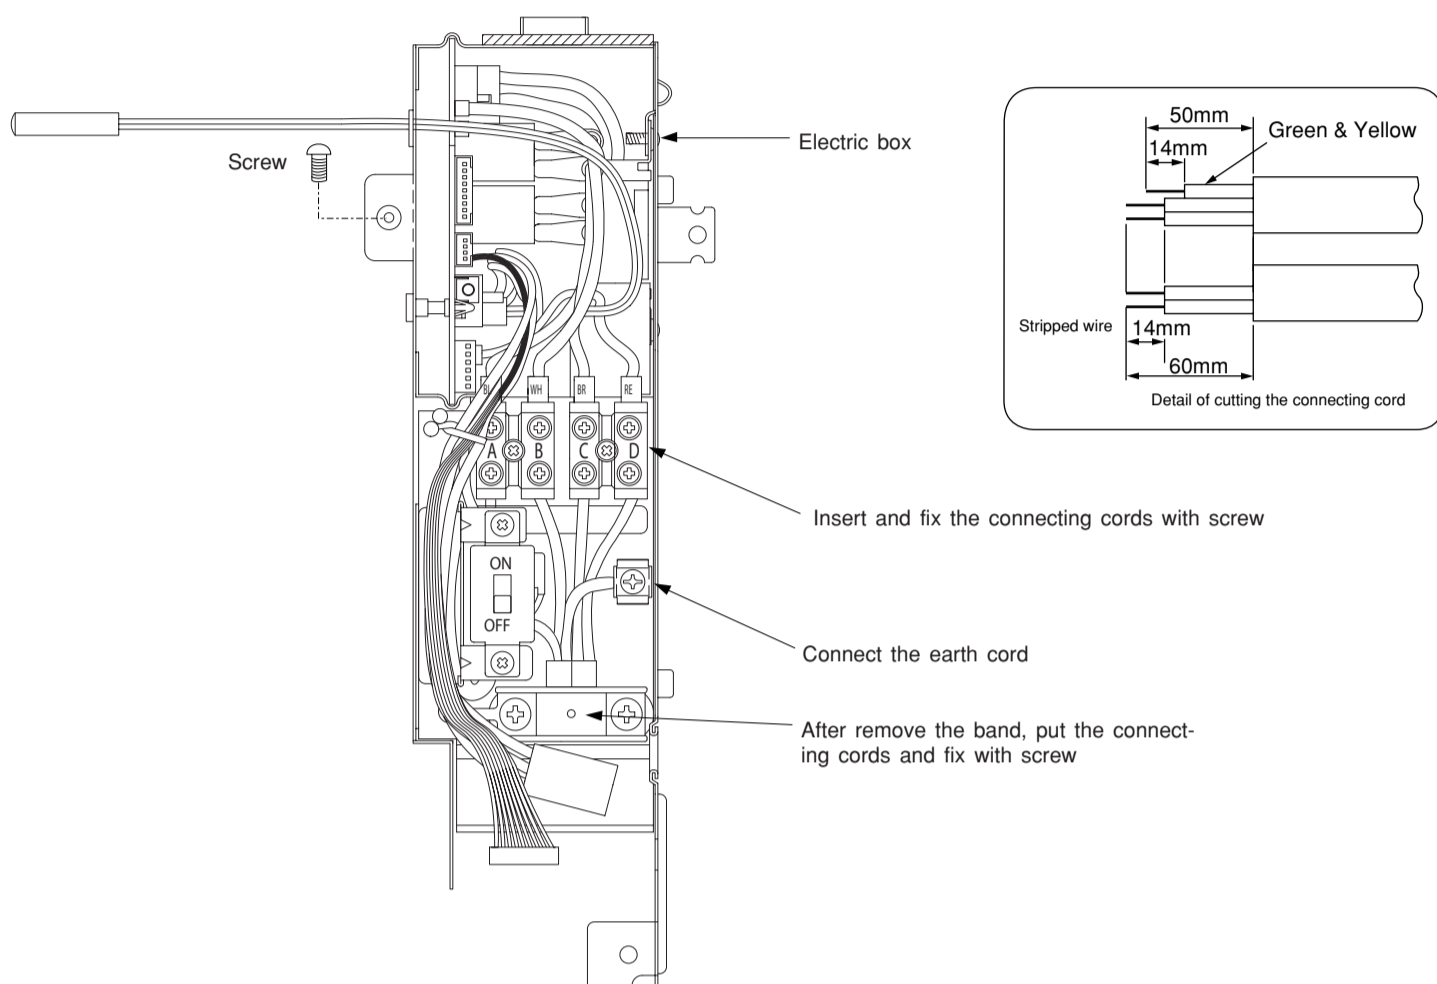

Fig. 3-13
(2) Connect the connecting cords as figure 3-13.